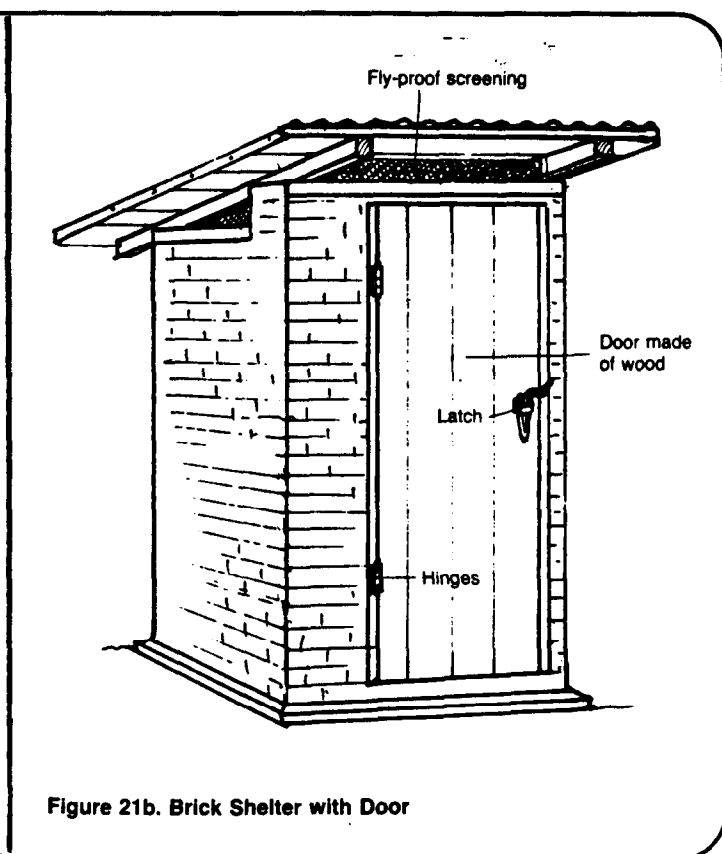

Figure 21b. Brick Shelter with Door
12. Build a door, if there is one, with wood boards as shown in Figure 21b. Attach the hinges, fasten the door to the door frame, and put on a latch, as described in the section on building special features.